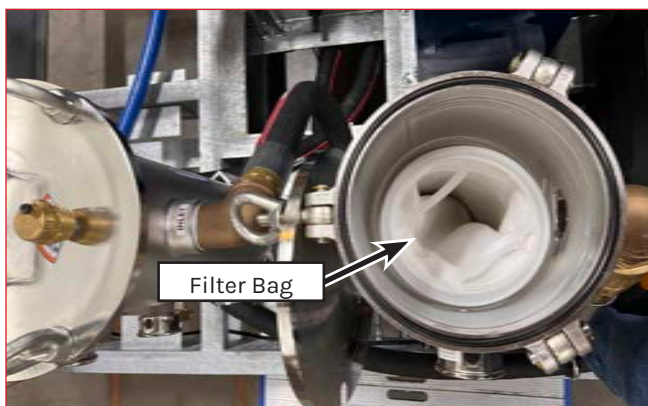

Figure 53: Filter Bag Removal.
2. Lift the filter bags (Figure 53) from the filter housing and inspect for debris. Replace as necessary.